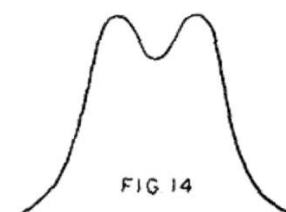

FIG. 14
**8—ADJUSTMENT OF APPARATUS**—For alignment of the IF and RF stages, it is essential that a frequency modulated oscillator be available. The output of the oscillator is connected to the unit under test. With the AVC disconnected, the audio output of the second detector is connected to the **VERTICAL** input jacks. The synchronization signal from the oscillator is connected to the **SYNC/INT** input jacks, with the **FUNCTION** switch in **EXT** position. With proper linear time sweep and synchronization, a stationary pattern results (Fig. 14). This pattern shows the selectivity of the circuit, and thus permits easy adjustment as any change in adjustment changes the pattern.